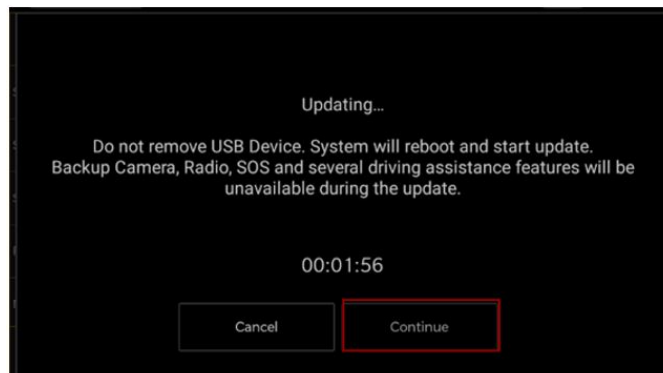

Fig. 4
15. Press the “Continue” on the display screen Fig. 4.